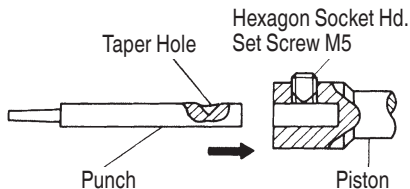

Fig. 12
- (c) Insert the new punch while aligning the taper hole of the punch and the direction of the M5 hexagon socket set screw, then securely tighten the hexagon socket set screw (see Fig. 12).